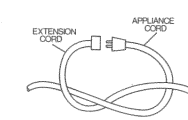

FIGURE 8A
To prevent disconnection of mower cord from extension cord when mowing, (1) make a knot as shown in Figure 8A, or (2) use one of the accessory Cord Connectors shown in Figure 8B (available at small extra cost from your dealer).